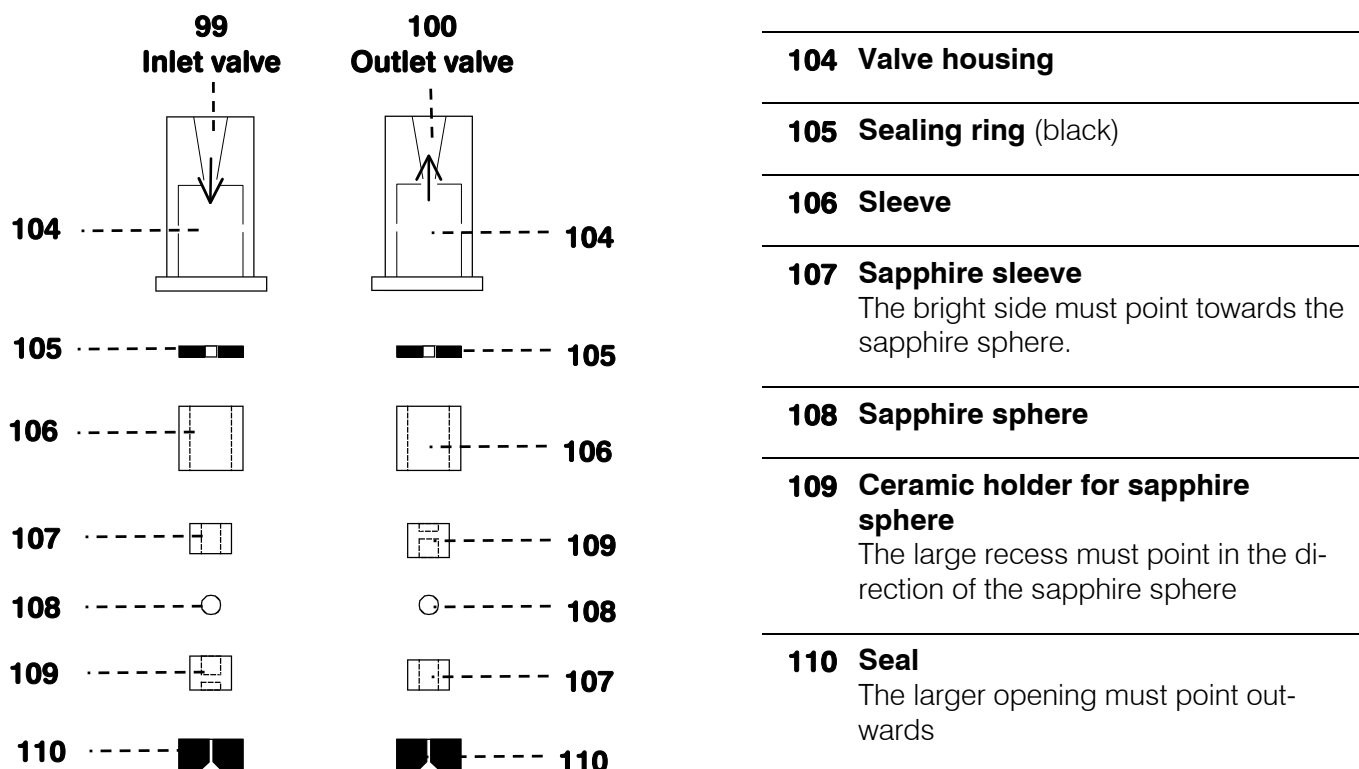

Figure 21: Components of inlet valve 99 and outlet valve 100
- If this does not have the desired effect, the valves can be disassembled as shown in *Figure 21*. The valve components are pushed out with the aid of a syringe needle inserted through
the upper opening in the valve housing. The individual components are rinsed with dist. water and/or acetone, and the sapphire sphere cleaned with a paper towel. The valve is then reassembled in accordance with *Figure 21*. The components of the inlet and outlet valves are identical, they are distinguished only by the positioning of the sapphire sleeve **107** and the ceramic holder **109** (see *Figure 21*).